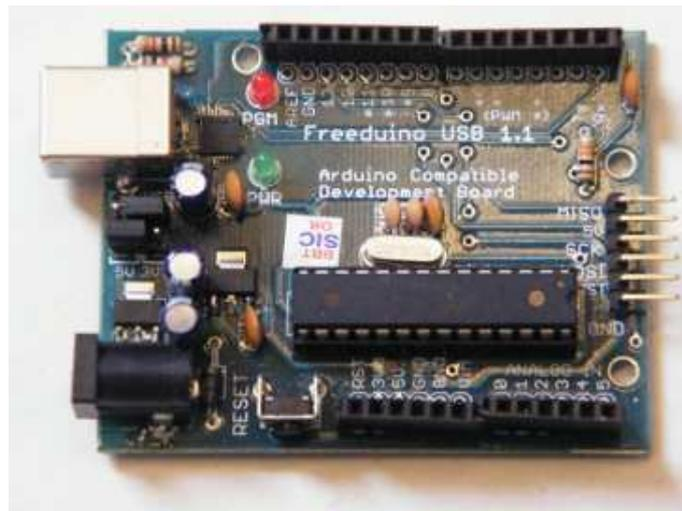

Figure 1: Arduino Hardware
Look at the photograph in figure 1. On the top left corner, see a white rectangle. This is the socket for usb cable (provided to you by Techno e-School). You can connect your Arduino board to your computer using this cable. The usb connection is useful to do the following:
1. The power supply socket at the bottom corner (see the photograph in figure 1) of Arduino pcb receives 9V DC power. Plug and 9V battery is provided in the Techno e-School kit.
See the photograph in figure 1.
See the photograph in figure 1. A key appears ear the power supply socket. This is the reset key. While running your sketch on the hardware, you may want to interrupt it in the middle of the process and start again. Reset key, when pressed, does the same.